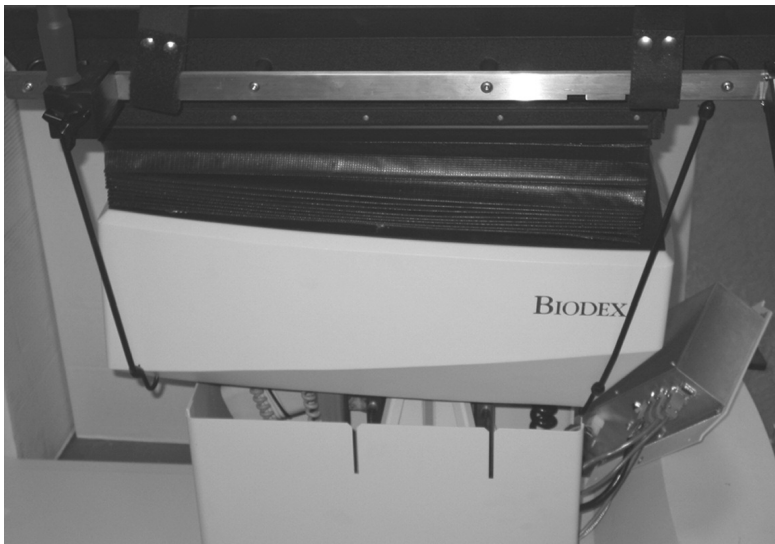

Figure 1.1.
2. The bellows is still secured to the top of the clamshell covers, but now it can be lifted and secured with bungee cords (see Figure 1.1). The table must be raised to its highest position to allow clearance to access and remove the controller.